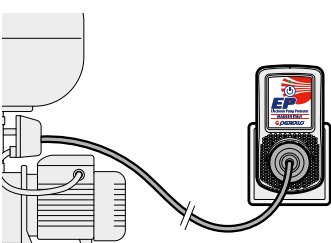

Fig. 3
- ✘ Plug the EP device into the outlet (**Fig. 3**) and start the self-learning procedure (see instruction manual).